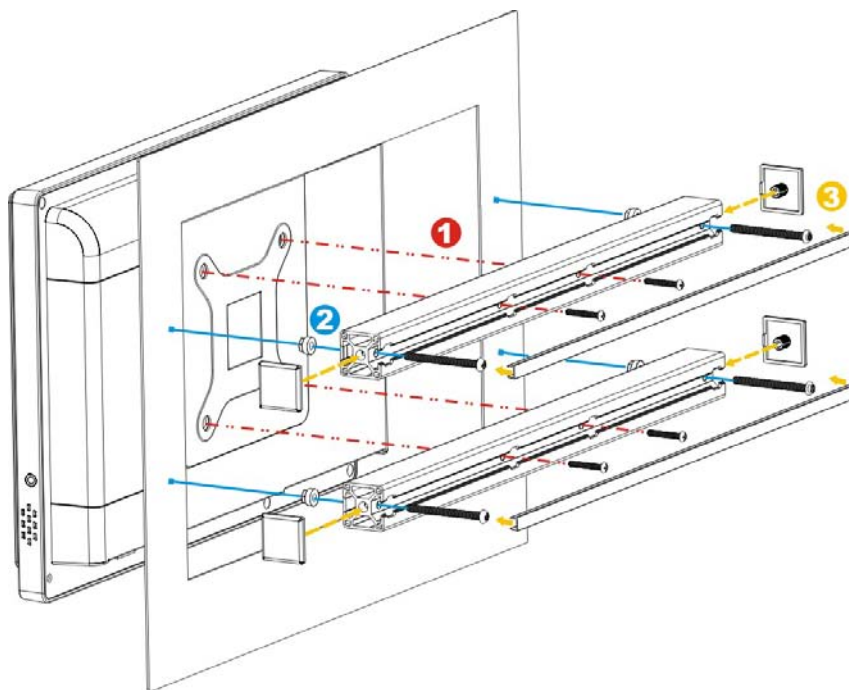

Figure 4-13: Tighten the Panel Mounting Clamp Screws
- Step 4:** Secure the two panel mounting brackets to the rear of the panel PC by inserting the four retention screws into the VESA mounting holes (**Figure 4-13 ①**).
- Step 5:** Insert the panel mounting clamps into the holes of the panel mounting brackets (**Figure 4-13 ②**). There are a total of 4 panel mounting clamps for AFL2-W07A-N26.
- Step 7:** Install the covers into the panel mounting bracket. Each mounting bracket includes two side covers and one top cover (**Figure 4-13 ③**).